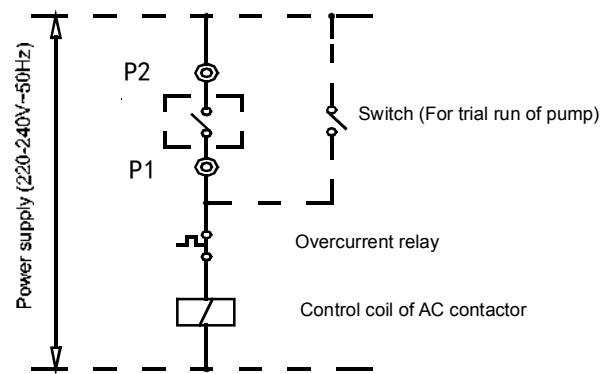

Fig. 5-3
Step 11. Connection of control wires of pump: the control wires of AC contactor of pump must pass the connection terminals p1 and P2 of the main unit, as shown in Fig. 5-3.